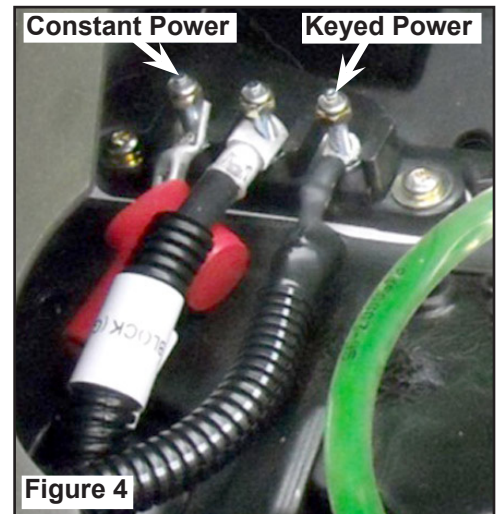

Figure 4
9. Connect the red and blue/white wires to the terminals on the horn. Connect the red and brown wires with ring terminals to the terminal block (bus bar) as shown in Figure 4. The red wire should be connected to keyed power. If you want the horn to work only when the key is on, or connected to the constant power terminal if you want the horn to be operable at all times. Connect the blue/white and brown wires to the horn.